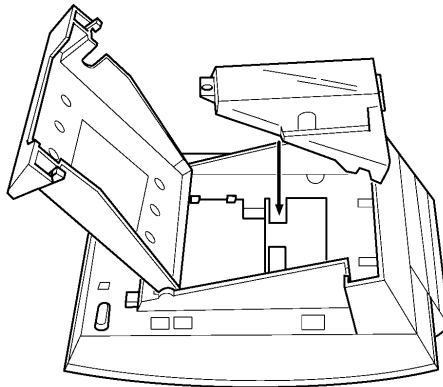

Figure 6-46: Attaching the Unit to the Multiline Terminal
3. Plug the unit into the receptacle connector inside the base plate. Refer to *Figure 6-46: Attaching the Unit to the Multiline Terminal*.